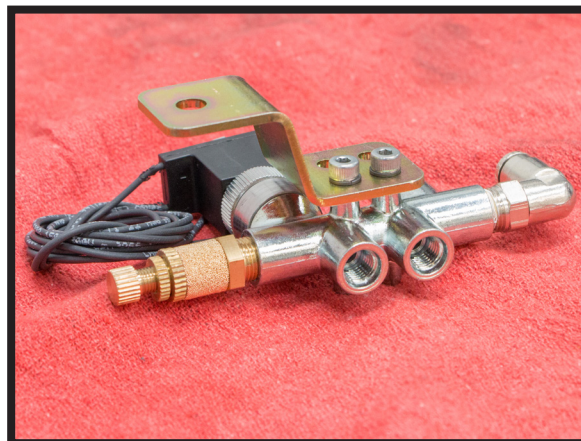

FIGURE 23
9. MOUNT THE UNIVERSAL BRACKET TO THE AIR MANIFOLD AS DEPICTED IN THE IMAGE BELOW. (FIGURES 23)